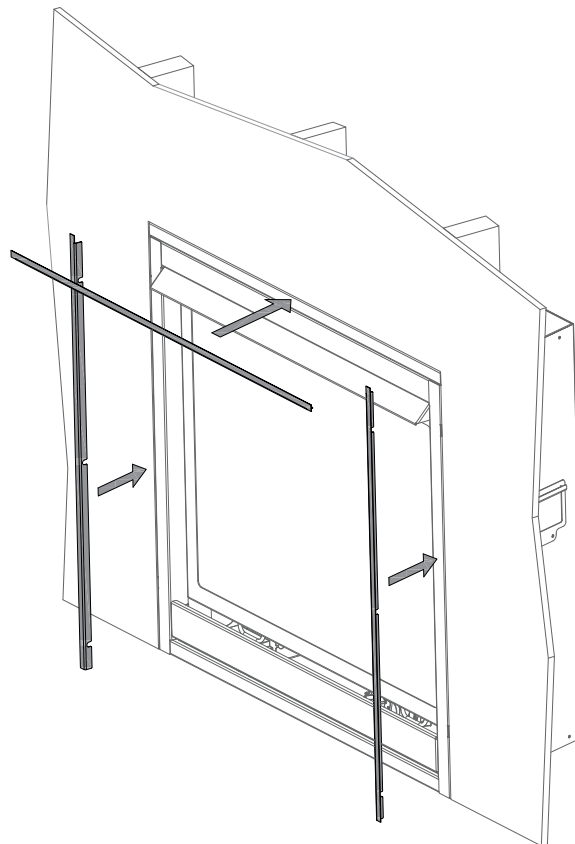

Figure 4.7 - Exterior Trim Installation
2. Remove the backing paper on the adhesive tape for the top pieces. The top pieces slides in between the finishing material and the top of the fireplace. Figure 4.7 shows installation of the exterior trim.